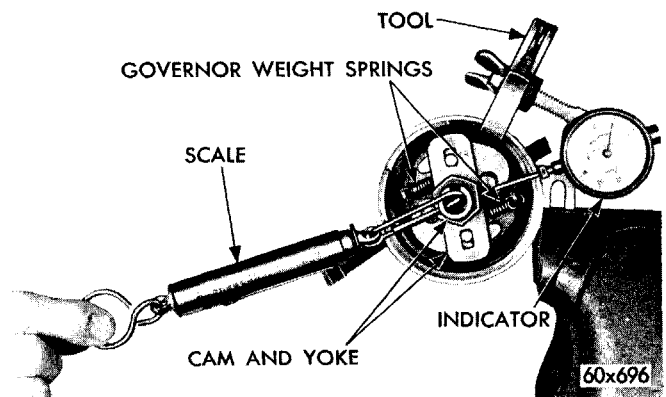

Fig. 6—Checking Distributor Shaft Side Play—6 Cylinder (Typical of 8 Cylinder)
(7) Clamp distributor base for 8 cylinder, distributor clamp for 6 cylinder in vise equipped with soft jaws and attach dial indicator to body of distributor, as shown in Figure 6, with indicator plunger resting against distributor shaft cam.
(8) Hook a spring scale over the shaft and pull on a line with the plunger of the gauge. Apply a 5 pound pull and read movement of the distributor shaft on in-